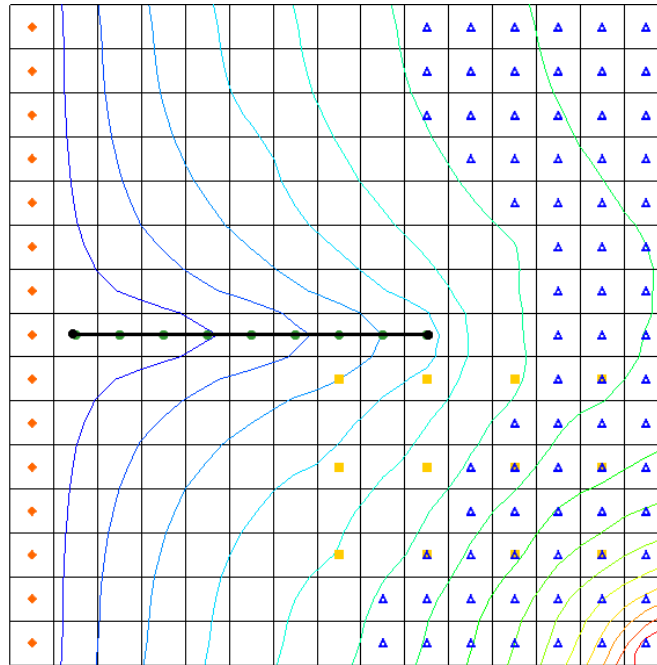

Figure 7 Creating an arc for the drains
2. Using the **Create Arc**  tool, create an arc for the drains as shown in Figure 7. Make sure the left end of the arc does not enter the specified head cell on the left side of the model.